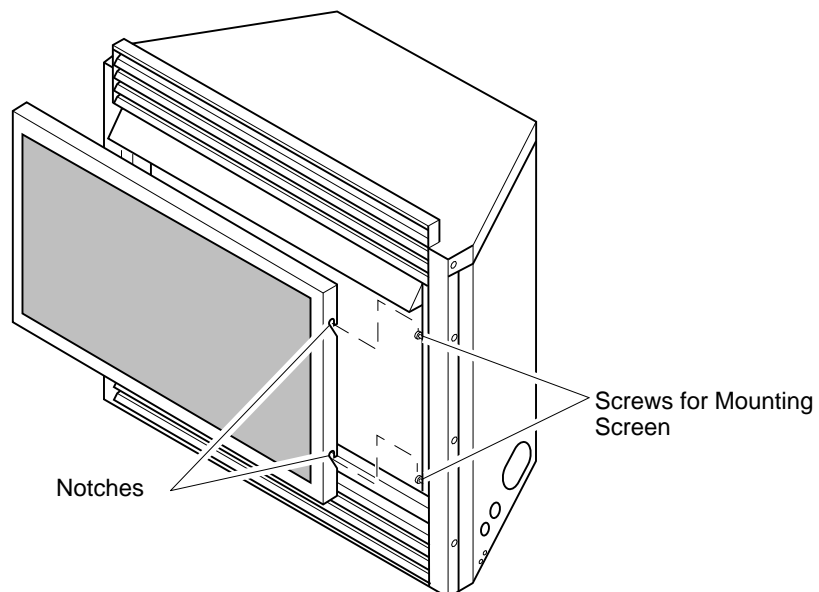

Figure 24 - Installing Fireplace Insert Screen
2. Install fireplace insert screen by slipping notches of fireplace insert screen over screws on front of fireplace insert (see Figure 24).